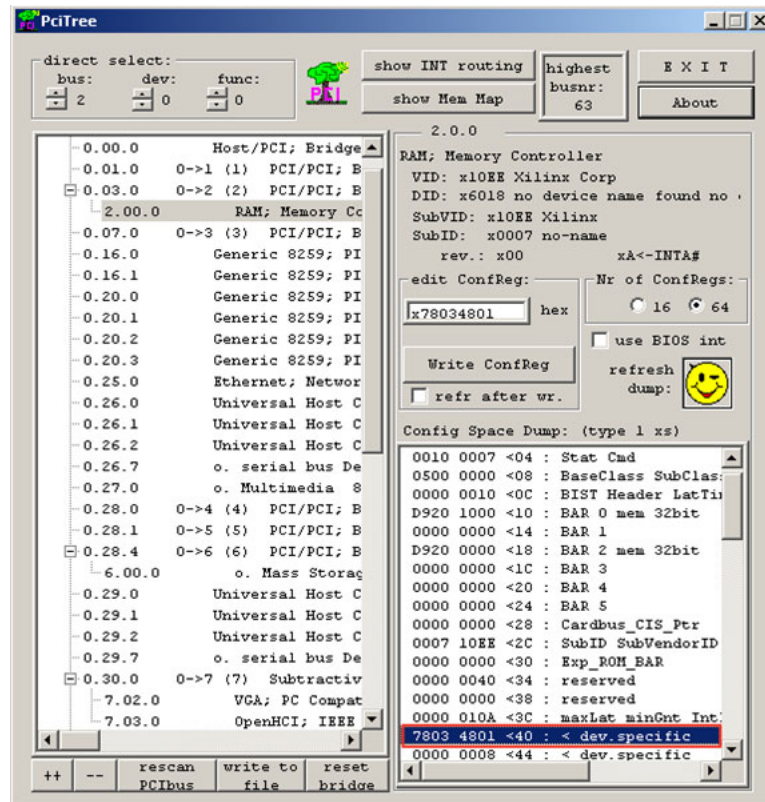

Figure 1-33: Locate the PCIe Capabilities Structure
14. Navigate to the linked list in the configuration space (as shown in Figure 1-33) to locate the PCIe capabilities structure.